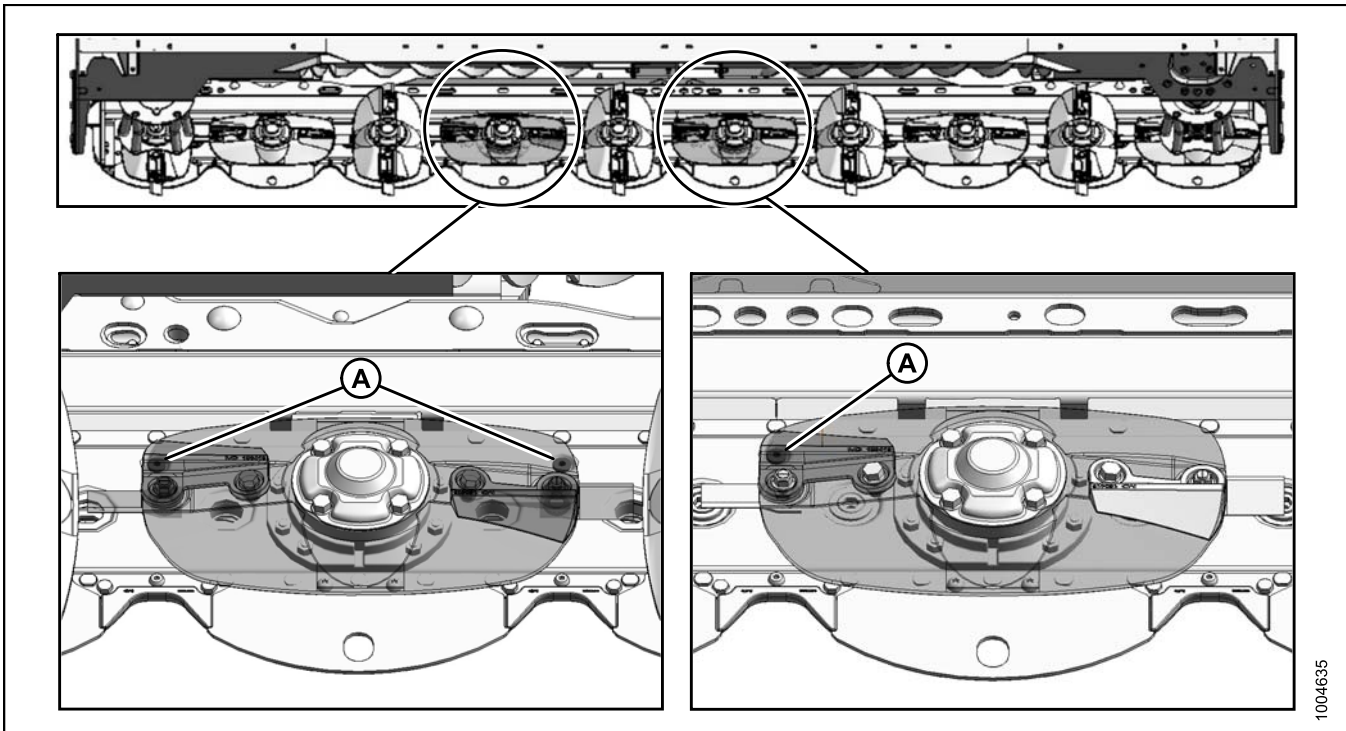

Figure 7.16: Cutterbar Filler Plug Locations
9. Locate one of the three filler plugs along the top of the cutterbar. Refer to Figure 7.16: Cutterbar Filler Plug Locations, page 122.
10. Clean around either filler plug (A) and remove one plug with an 8 mm hex Allen L-key.